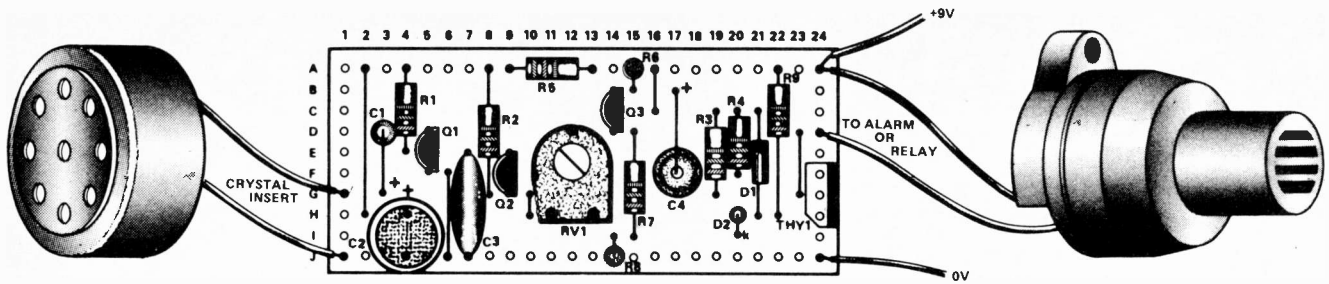

Fig. 2 Connection details and Veroboard layout of the ETI Movement Alarm. The crystal insert can be of any convenient type.
**Fig. 2** Will the universe keep expanding (a) or will the gravitational attraction be strong enough to make it collapse again, only to start another expansion (b)?